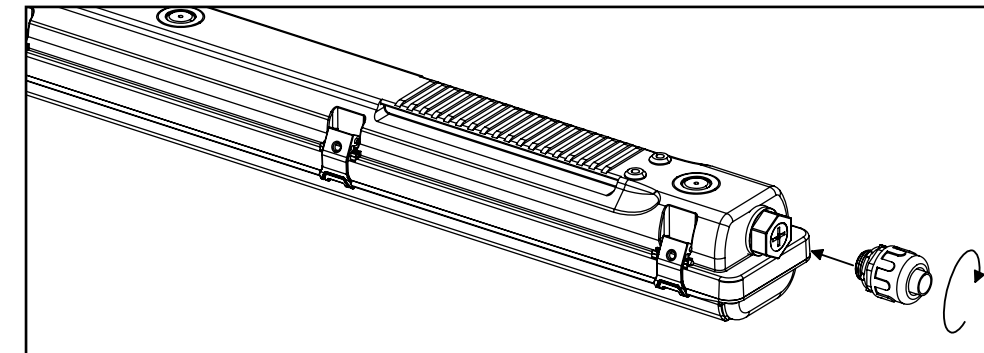

Figure 2.
2. Thread the 1/2” water-tight conduit fitting (by others) into universal hub on end of luminaire (Figure 2)